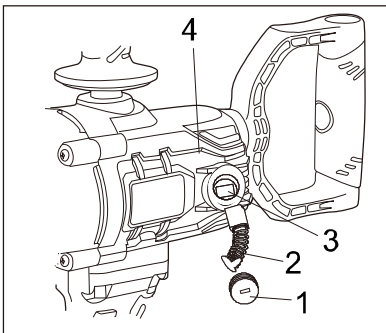

Fig.13
1. Use a 3/16" (5 mm) slot screwdriver and remove one brush cap (1) (fig. 13). Turn the brush cap counter-clockwise to remove it from the motor housing.
2. Pull the spring & brush assembly (2) from the brush holder (3) in the motor housing (4).